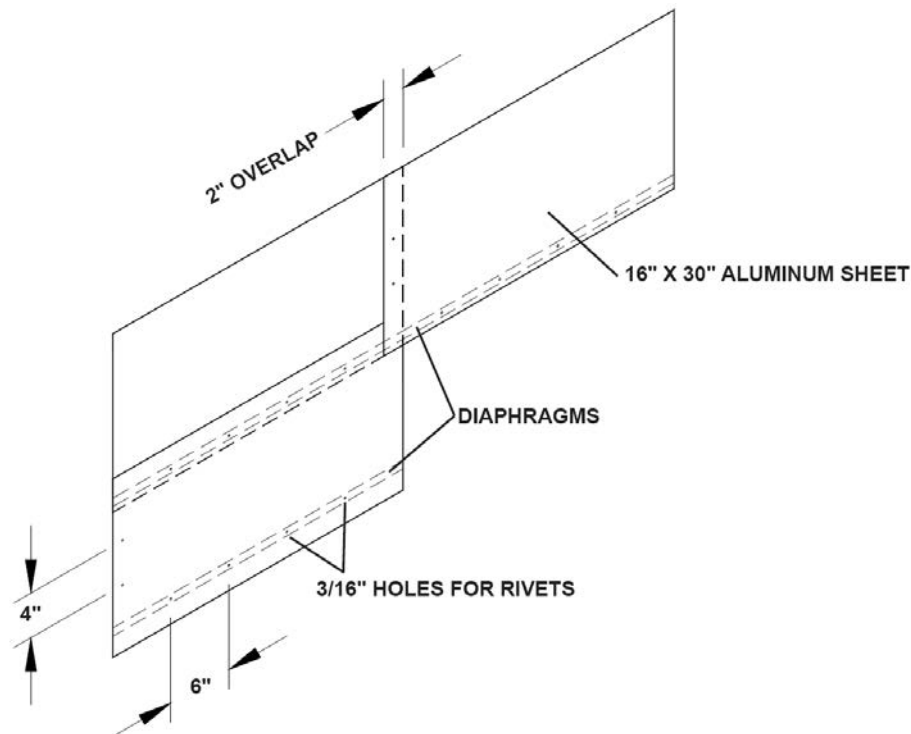

Figure 2
- 16) Determine where the internal supports are and drill the holes for the pop-rivets on 6" centers. Two 3/16" diameter holes should be drilled on 4" centers on either end of the sheet (see Figure 2).